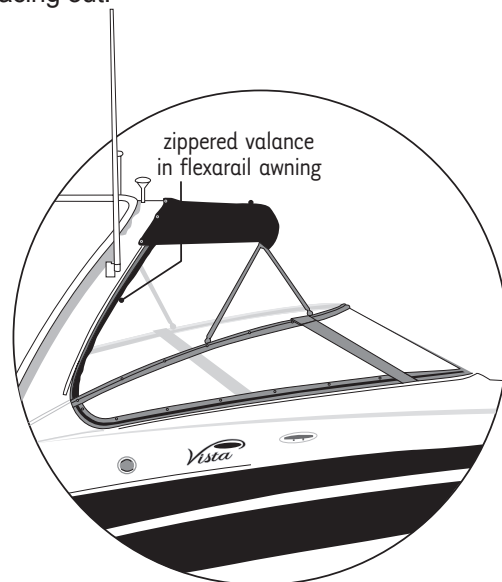

Figure O4: Installing Valances
- 1) Valances (Arch Boats) - small areas of canvas curtain -are use to attach larger canvas pieces to the vessel. There are valances for the bimini side curtains, camper top and camper side curtains. See Figure O4.